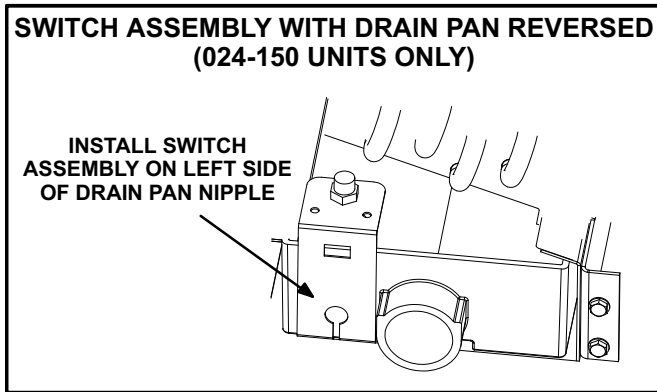

FIGURE 4
*IMPORTANT - 024-150 UNITS ONLY - When condensate drainage is required through the back of the unit: remove drain pan, install float switch assembly on the left side of the drain pan nipple and install with switch oriented toward the back of the unit. See figure 4. Route wire harness between the drain pan and heat section.*